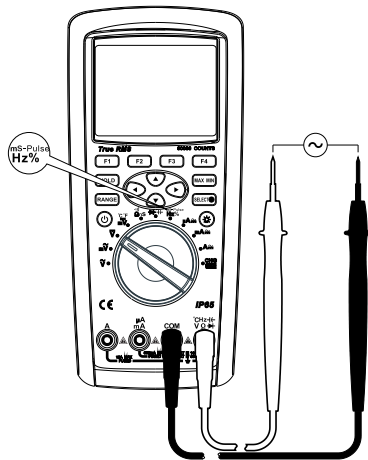

Figure 11
- 2) Set the rotary switch to the measurement Hz% ms-Pulse, press the key SELECT to select Hz or Duty% or ms-Pulse. Connect the test leads to the signal source under test in parallel as shown in Figure 11.